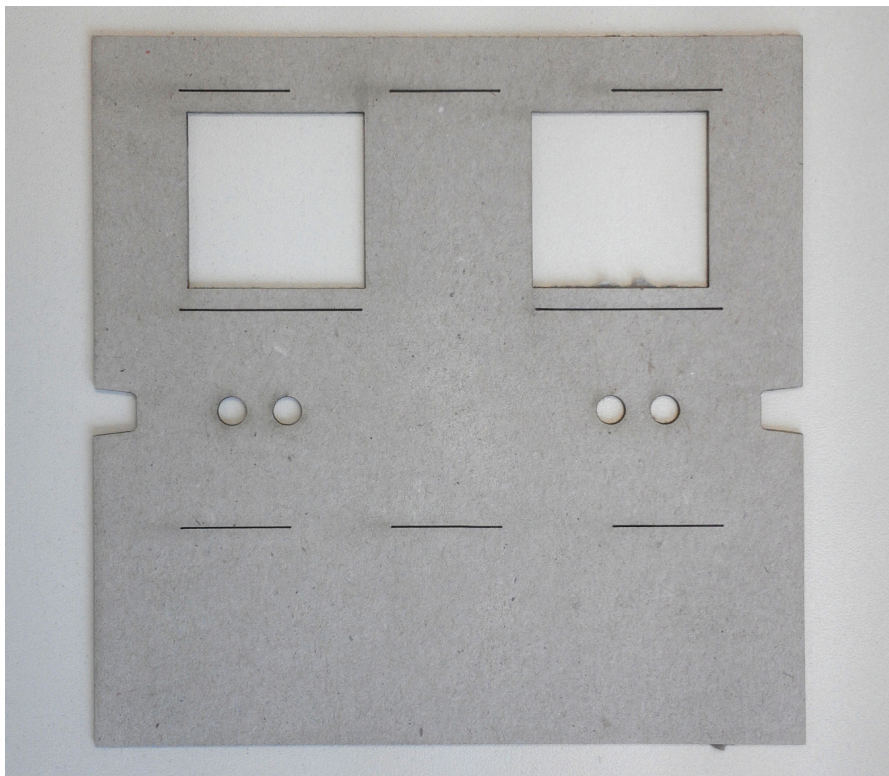

Figure 1.0.6: Part B
3. Continue with part B (see figure 1.0.6). In this step, you should also bend all the creased edges (Figure 1.0.7). Glue the connecting link to the other end of part B, creating a triangle like on figure 1.0.8.